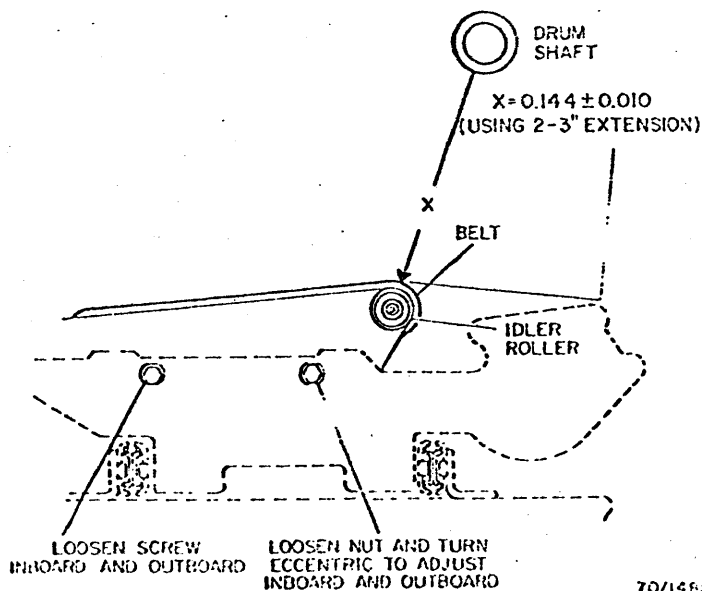

Fig. 3-125. Idler Roller Parallelism
1. Assemble micrometer holder (600T753), micrometer (600T52) and the 2- to 3-inch extension. Setting on instrument should be as indicated on Fig. 3-125.